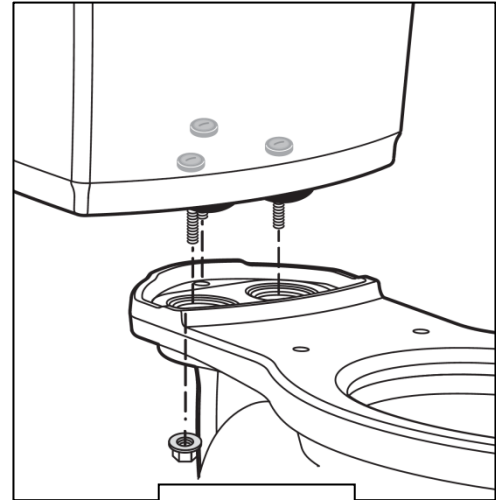

FIGURE 1
- Remove tank nuts; do not remove second set of tank nuts (see **FIGURES 1 and 2**)
- Re-mount tank to bowl (see **FIGURE 1**)